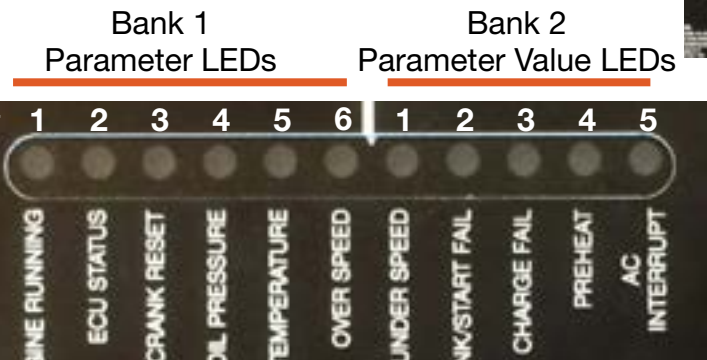

Figure 6. LED correspondence to parameters and parameter values
7. **SETUP MODE:** Turn on the DC power supply and adjust the voltage setting to ~12 V. The green LED next to the “RsEK ON” button will blink to indicate that it is in SETUP MODE. The #6 LED in Bank 1 will be illuminated (no LED illuminated in Bank 2) indicating that the RsEK is on parameter 1 “Engine Speed Source” and the value is set to “Magnetic Pickup”, the default value (see Figure 4 and Figure 6).
8. **Parameter Selection:** Press the **GEN START** button two (2) times to get to the “Crank Timer” parameter. LEDs 5 and 6 in Bank 1 will be illuminated (Figure 6). Pressing the “GEN START” button steps through the entire list of 59 parameters. The pattern of illuminated LEDs in Bank 1 indicates the selected parameter. The pattern/parameter changes each time the “GEN START” button is pressed. **Note:** If you pass a desired parameter or value, step the value back by pressing the down arrow button.